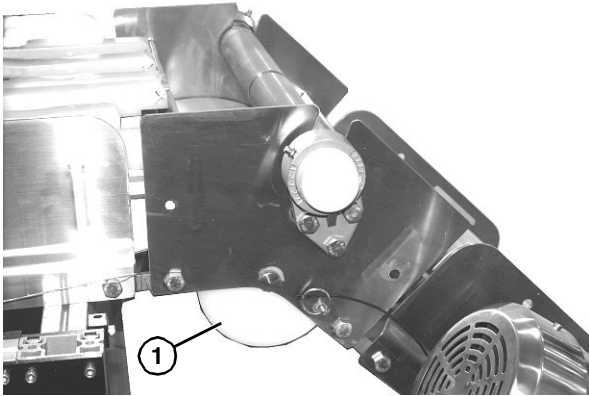

Figure 23
1. Install the belt return (Figure 23, item 1).